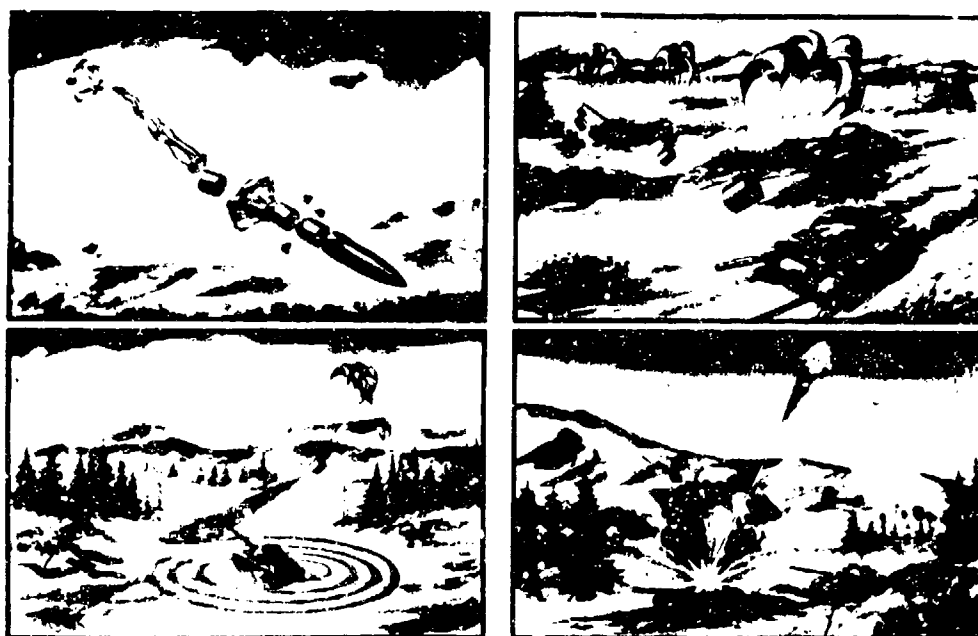

Figure 11-45. XM836 sense and destroy armor (SADARM) projectile.
(2) *XM836 sense and destroy armor (SADARM)*. The XM836 SADARM system, as initially developed, will use a standard M509 8-inch projectile body to deliver multiple submunitions packaged within the projectile to an area above an armored concentration (fig 11-45). Each submunition contains an autonomous sensor for the detection of armored targets, a lethal mechanism capable of defeating the target at a long standoff, and a parachute for stabilizing and imparting a spin to the submunition while controlling the rate of descent of the submunition. This uniform spin and descent rate provides scan capability to the sensor. The SADARM approach is considered to be unique because it utilizes a self-contained sensing technique for target detection, and does not rely on a guidance and control subsystem to carry the lethal mechanism to the target. The sensor acts as a target activated fuze, evaluating and processing the inherent signature emanating from the target.